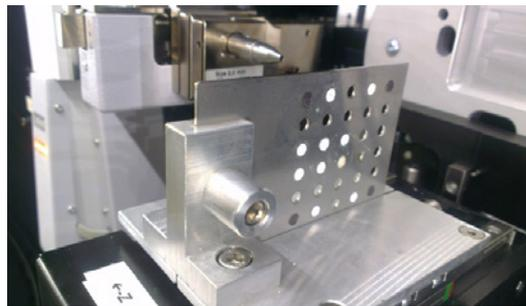

Figure 1. Well plate sample holder mounted on 3-axis translation stage
Figure 1. Scattering curves from the new MetalJet-D2 X-ray source (solid line) and the previous Cu sealed tube (dotted lines). The curves were corrected for collection time and the use of an Al foil to attenuate the beam from the MetalJet-D2 source (to prevent saturation of the detector). The curves are of samples of SBA-15 (red) and SBA-15 that has been doped with palladium nanoparticles (blue).
The scattering curves shown in Figure 1 have been indexed for the observed reflections from the hexagonal ordering of the pore structure. The peaks observed from the MetalJet-D2 source show a much improved signal to noise ratio even with the reduced collection time. The (100) reflections also show sharper profiles again related to the improved counting statistics on the new instrument. The sample-detector distance has been increased to 107 cm and along with the shorter wavelength of the gallium anode measurement is possible down to $q = 0.0114 \text{ \AA}^{-1}$.